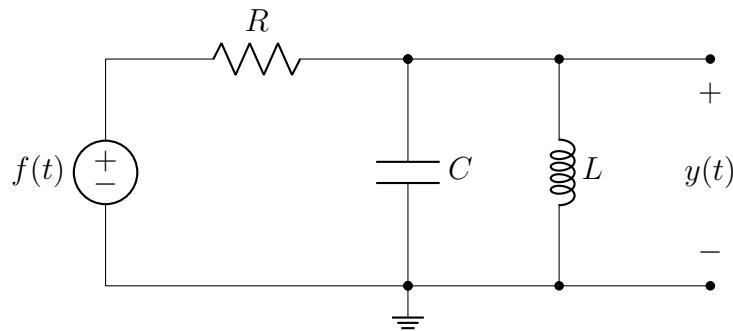

Figure 5.2: Series/parallel resonant circuit
Find the ODE governing the circuit in Figure 5.2. From the ODE, derive the transfer function $H(s)$ from this ODE.
Just to verify your result, write a function in your `periodic_input.py` called `H(s, R, L, C)` that computes the transfer function $H(s)$ for the circuit in Fig. 5.2. The function definition should look like this:
Modify your `periodic_input.py` file to include a function called `y(t, omega_0, m, R, L, C)` that computes the output of the circuit in Fig. 5.2 to the square wave input. The function definition should look like this:
- What ODE governs the circuit in Fig. 5.2?